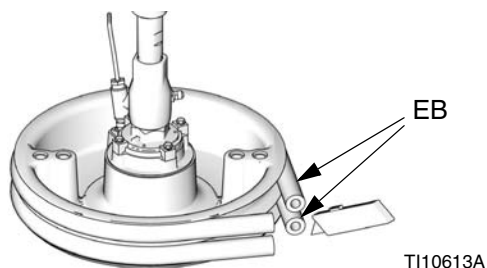

FIG. 21
1. To replace worn or damaged wipers (EB), raise platen up out of drum. Remove drum from base. Wipe fluid off of platen.
2. Cut top and bottom wipers with knife and remove from platen. See FIG. 21.